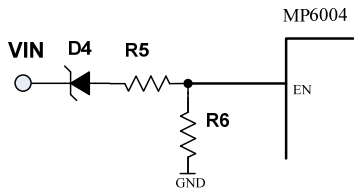

Figure 4—VIN UVLO setting with EN control
In flyback mode, the maximum on time is limited at about 8 μs. The secondary-side rectifier diode conduction time should be longer than 3 μs for FB1 feedback sampling. If V_{IN} decreases and the inductor current cannot ramp the I_{PK} to setting value within the maximum on time, the diode conduction time decreases to less than 3 μs, causing FB1 feedback sample failure. The MP6004 treats this failure as a V_{OUT} drop and generates more pulses, causing V_{OUT} to overshoot. In this condition, EN can be used to program V_{IN} UVLO and shuts down the part before V_{IN} drops (triggering the maximum on time). Since the EN high-level voltage is 3.9 V and the low-level voltage is 1.3 V, it is hard to program the V_{IN} UVLO with a small hysteresis. In this condition, one resistor divider and one Zener diode is recommended (see Figure 4).
There is an internal Zener diode on EN, which clamps the EN voltage to prevent runaway. The maximum pull-up current for the internal Zener clamp (assuming 6.5 V) should be less than 0.5 mA. If EN is driven with an external signal, use a signal voltage less than 6.5 V or connect EN to the signal through a pull-up resistor that ensures the maximum pull-up current is less than 0.5 mA. If using a resistor divider (see Figure 4) and $V_{IN}-V_{ZENER}$ is higher than 6.5 V, the minimum resistance for the pull-up resistor R5 should be calculated with Equation (10):